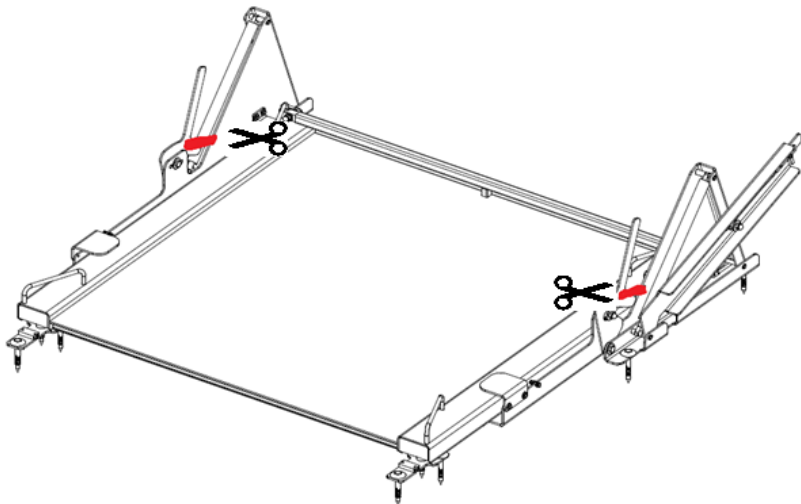

Fig.14. The protection of the platform lifting system lock
9. Remove the protection of the platform lifting system lock (Figure 14).